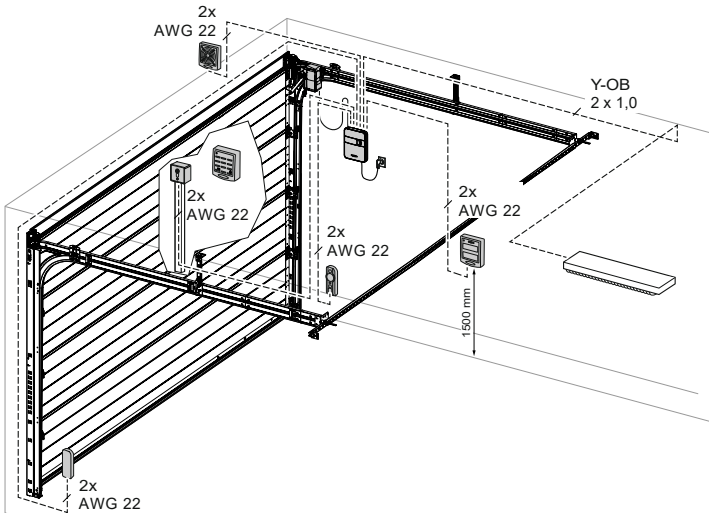

Fig. 5: Example installation of accessories
Place the door bracket (5) on the designated holes in the upper door leaf section and screw it down using the three screws (15) (Fig. 5).